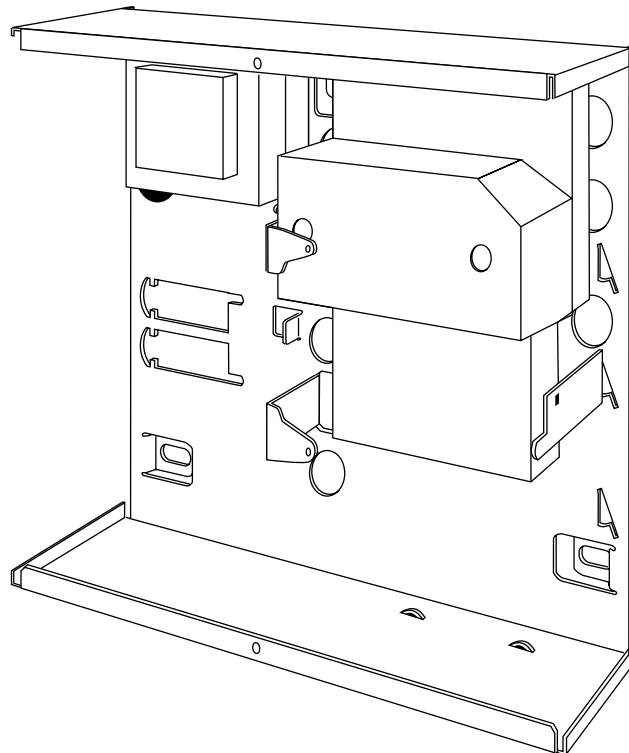

Figure 13. . Fitting a Plug By Communicator in a Junior Combi Box.
3. Fit the communicator between the PCB support pillars, making sure that the main PCB can fit back into position (see Figure 13).